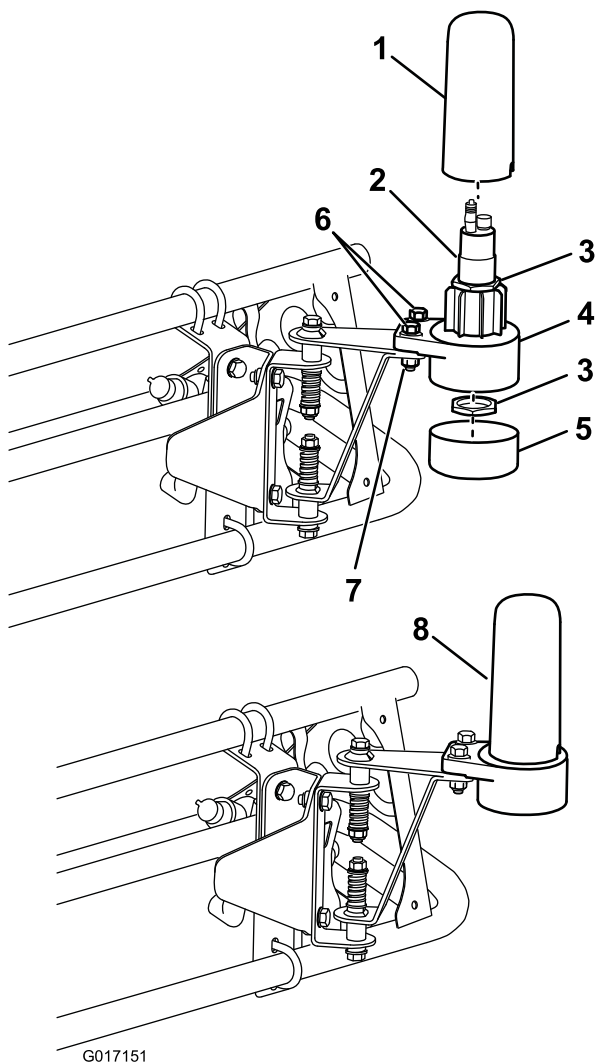

Figure 13
4. Install the lower sensor housing onto the sensor mounting hardware with 2 bolts (5/16 x 1-1/4 inch) and 2 locknuts (5/16 inch) (Figure 13).
6. Insert the sensor into the lower sensor housing, and secure it with 2 large nuts provided with the sensor (Figure 13).
7. Install the cap tube and the cover (Figure 13).